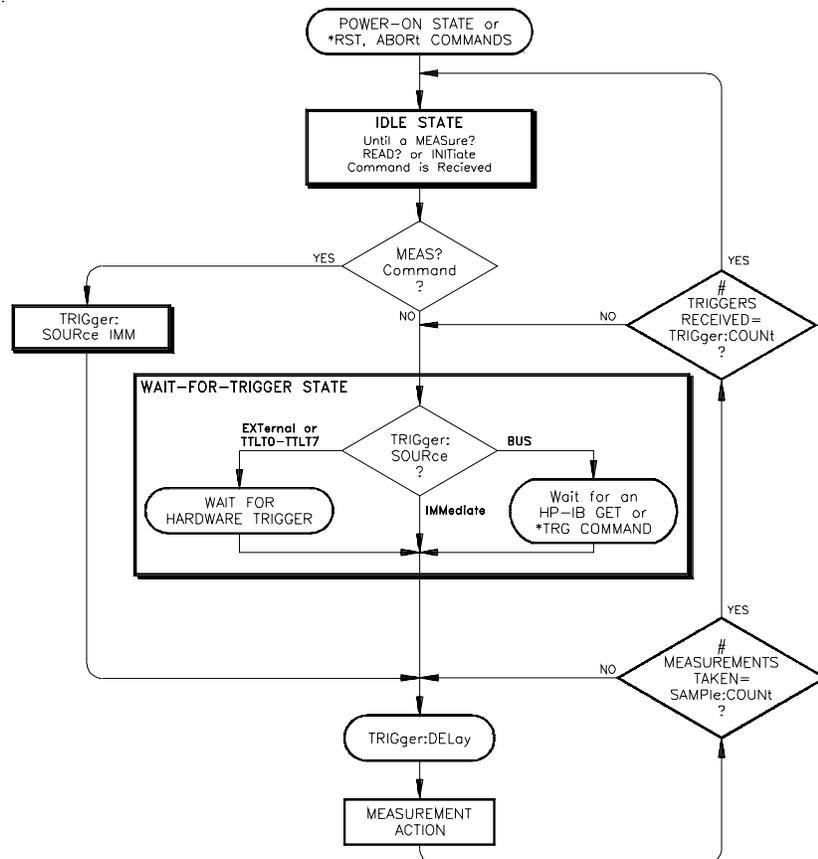

Figure 2-1. Multimeter Triggering Flow Chart
Figure 2-1 illustrates the multimeter's trigger system and the programming commands that control the trigger system. The multimeter operates in one of two trigger states. When you are configuring the multimeter for measurements, the multimeter must be in the *idle* state. After configuring the multimeter, the multimeter must be placed in the *wait-for-trigger* state.
3. You must make sure that the multimeter is ready to accept a trigger from the specified trigger source (this is called the *wait-for-trigger* state) by issuing a READ? or INIT command. A MEASure command always uses an immediate trigger (see the flow chart in Figure 2-1 on page 45).
- See the triggering process diagram in Figure 2-1 on page 45.
If you do not specify a trigger delay, the multimeter automatically determines a delay time (default delay) based on the present measurement function, range, resolution, integration time and AC filter bandwidth setting. The delay time is actually the settling time required before measurements to ensure measurement accuracy. The default delay time is automatically updated whenever you change the function or range. Once you specify a delay time value, however, the value does not change until you specify another value, reset the multimeter or do a CONF or MEAS command. The table below shows the default trigger delay times for all functions. This delay will occur before *each* measurement (see the trigger system diagram in Figure 2-1 on page 45).